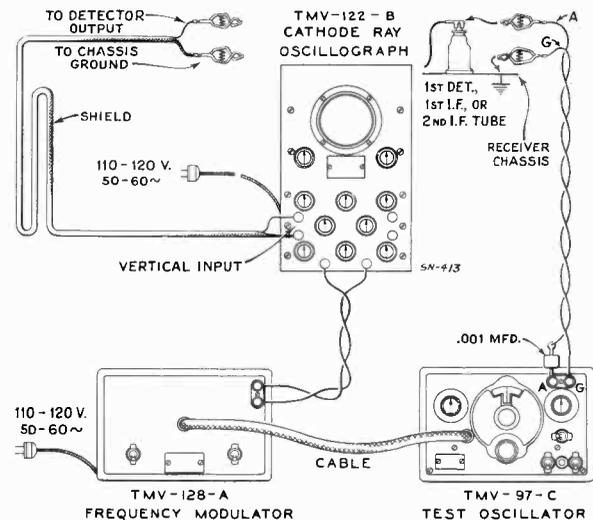
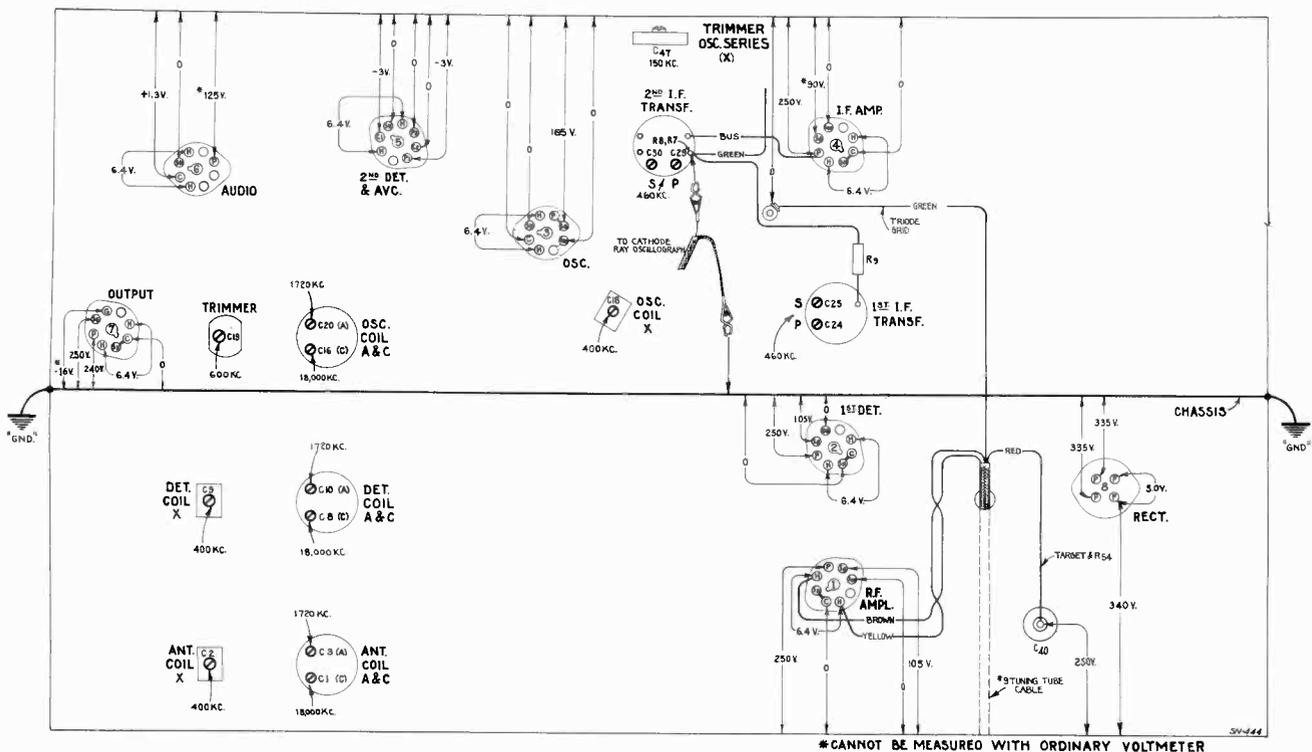

Figure 4—Alignment Apparatus Connections
Figure 6—Radiotron Socket Voltages and Trimmer Locations
The four trimmers of the two i-f transformers are located as shown by Figure 6. Each must be aligned to a basic frequency of 460 kc. The last transformer must be aligned firstly and the first transformer aligned secondly. For such a process, it is necessary to feed the output of the Full-Range Oscillator to the stages in their order of alignment, adjusting the trimmers of each transformer and observing the effect at the second detector output on the Cathode-Ray Oscillograph. The proper point of connection of the Oscillograph is with its vertical "high" input terminal attached to the junction of R-7, R8 and R9 as illustrated in Figure 6, and with the "0" or ground terminal to the chassis. The "Ext. Sync." terminals of the Frequency Modulator should be connected to the Frequency Modulator as shown by Figure 4. A .001 mfd. capacitor installed in series with the Oscillator "Ant." lead will prevent the voltages of the stage under alignment from becoming upset. The vertical "A" amplifier should be "On" for the ensuing adjustments and the gain control kept at its maximum position. For each adjustment, the Oscillator output need be regulated so that the image obtained on the
- (b) Attach the output of the test Oscillator between the control grid cap of the RCA-6K7 i-f tube and chassis ground as shown typically by Figure 4. Tune the Oscillator to 460 kc. and set its modulation switch to "On". Regulate its output until the signal produces a wave pattern on the Oscillograph screen, adjusting the Oscillograph controls to give the desired number of cycles. Cause the image to stand still on the screen by manipulation of the frequency and synchronizing controls. Then carefully tune the two trimmers C-29 and C-30 of the second i-f transformer to produce maximum amplitude (vertical deflection) of the oscillographic image. Under this condition the transformer will be sharply resonated to 460 kc.
- (c) The Frequency Modulator should then be placed in operation and interconnected with the Full-Range Oscillator by means of the special shielded patch cord. Figure 4 shows the proper arrangement. Set the Frequency Modulator sweep range switch to its "Lo" position and turn the Oscillator modulation switch to "Off". Change the timing control of the Oscillograph to "Ext." and place the range switch to its No. 2 position. Then carefully shift the tuning of the Oscillator so as to increase its frequency, until two distinct and similar waves appear on the Oscillograph screen and become exactly coincident at their highest points. These curves will be found to occur at an Oscillator setting of *approximately* 540 kc. They will be identical in shape but appearing in reversed positions. Adjust the frequency control of the Oscillograph in order to cause the waves to conform with the above requirements and to make them remain motionless on the screen. This will require a setting of approximately $\frac{1}{2}$ clockwise rotation of the frequency control. The trimmers C-29 and C-30 should then be re-adjusted so that the two curves move together and become exactly coincident throughout their lengths, maintaining the maximum amplitude at which this condition can be brought about.
Locations of the various antenna, detector and oscillator coil trimmers are shown by Figure 6. The test Oscillator should be removed from connection with the i-f system and its output connected to the antenna-ground terminals of the receiver. No changes are to be made in the connections of the Oscillograph at the second detector. During the following
Oscillograph on "Int." for this operation. After each trimmer has been peaked, the Oscillograph timing control should be set to "Ext." and the Frequency Modulator placed into operation with its connections to the Oscillator and Oscillograph made in accordance with Figure 4. Turn the modulation switch of the Oscillator to "Off" and retune the Oscillator (increase frequency) until the forward and reverse waves show on the Oscillograph and become coincident at their highest points. Adjust the trimmers C-20, C-10 and C-3 again, setting each to the point which produces the best coincidence and maximum amplitude of the wave images.
The voltage values indicated from the Radiotron socket contacts to chassis on Figure 6 will serve to assist in the location of causes for faulty operation. Each value as specified should hold within $\pm 20\%$ when the receiver is normally operative at its rated supply voltage. Variations in excess of this limit will usually be indicative of trouble in the basic circuits. The voltages given are actual operating values and do not allow for inaccuracies which may be caused by the loading effect of a voltmeter's internal resistance.